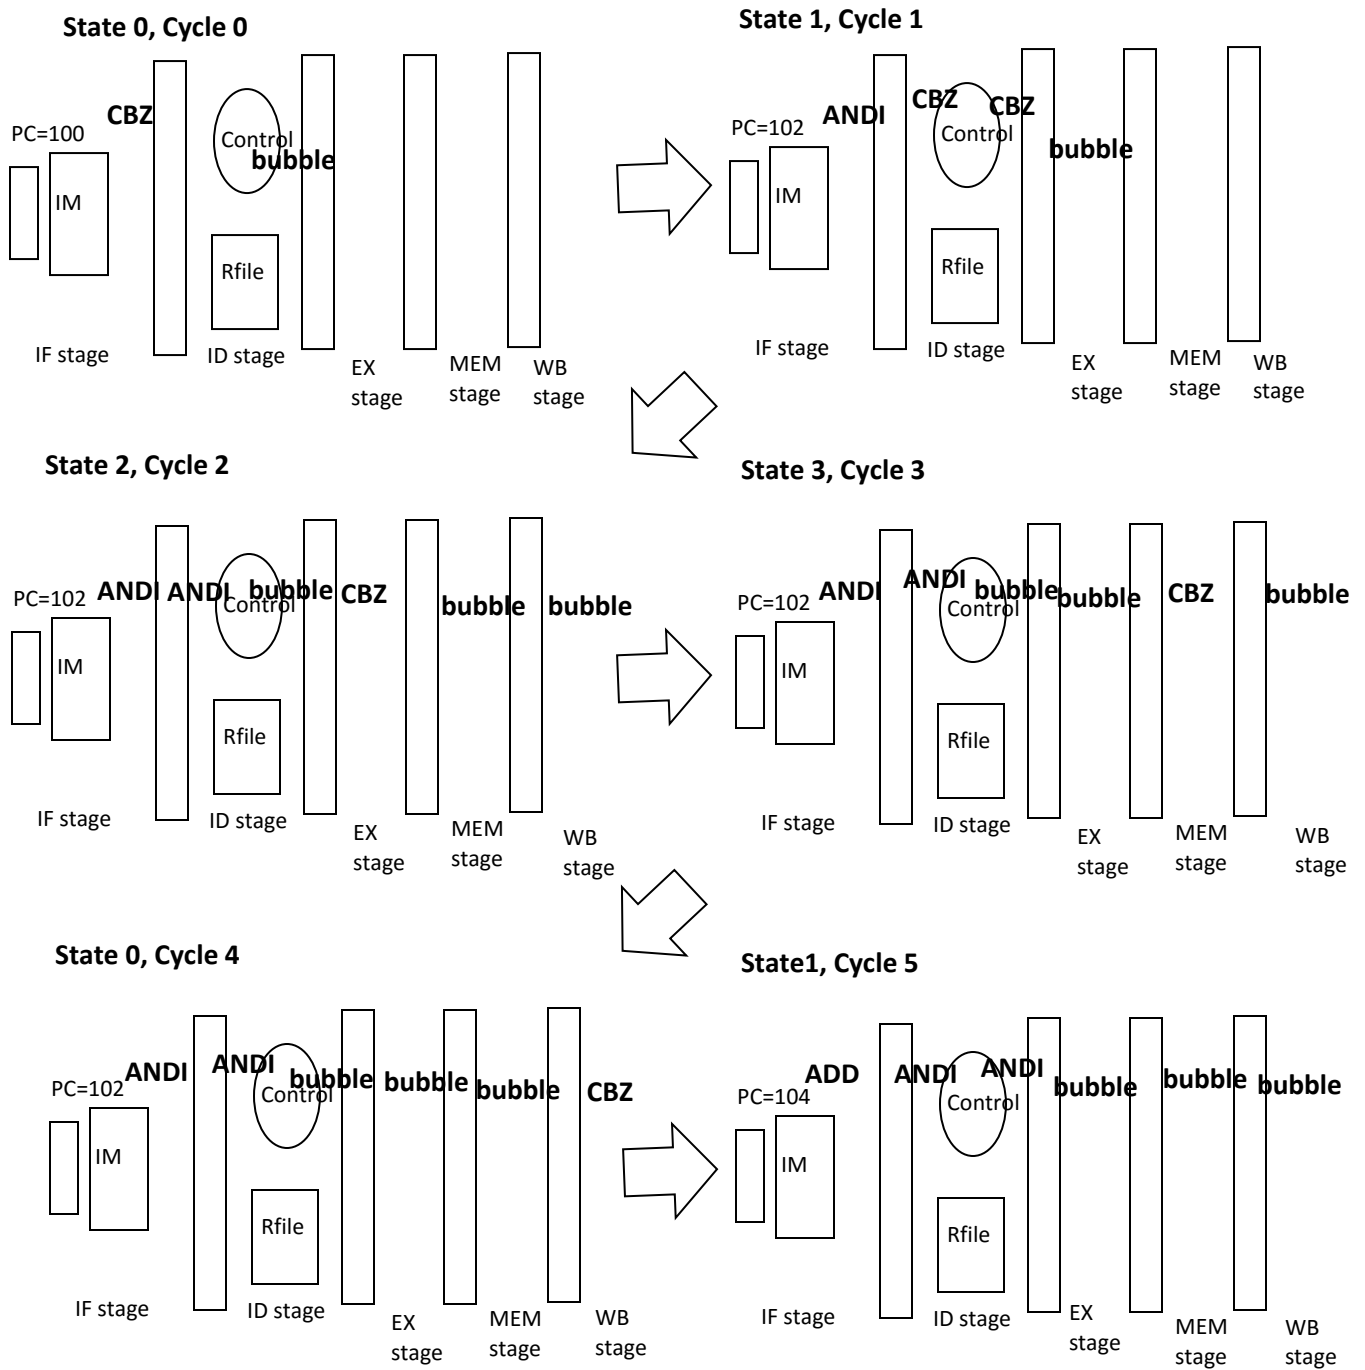
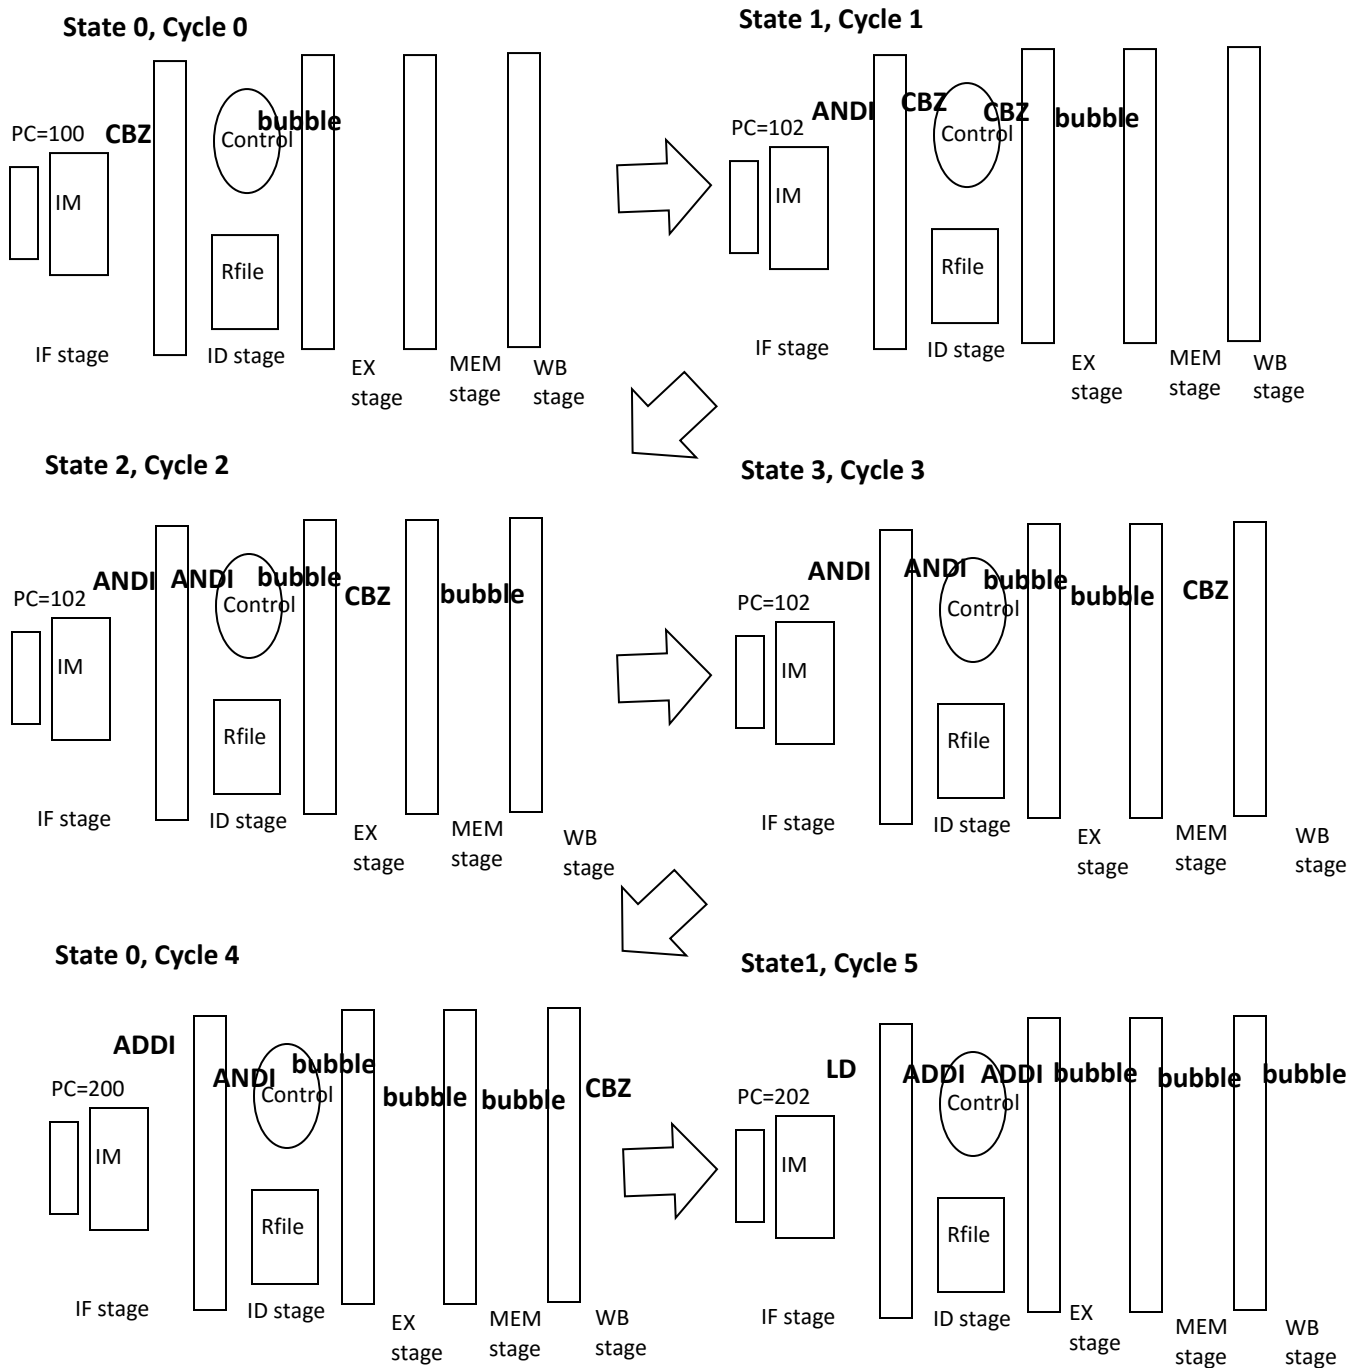

Figure 4. The progression of CBZ followed by ADDI in the datapath when the branch is not taken.
Figure 5. The progression of beq followed by addi in the datapath when the branch is taken to location 200, which has the instruction sub.
- Figures 4 and 5 are the case when PC is initially 100 and the instructions in memory are
Figure 4 is the subcase where the branch condition is false, so the branch is not taken. CBZ is located at address 100, while ADDI is located at address 102. Figure 5 is the subcase where the branch condition is true, so the branch is taken.